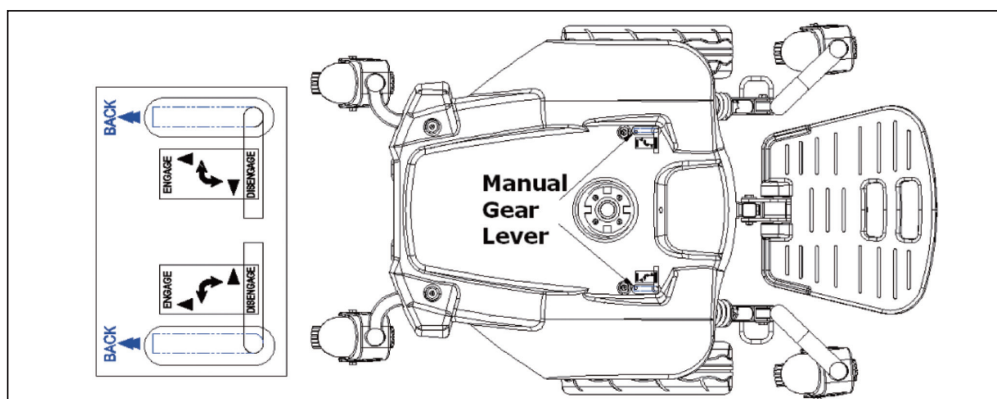

Figure 9. Power chair is in drive mode
1. Make sure the power chair is in drive mode. Both manual gear levers are backward. (See figure 9)
2. Ensure the power chair is in drive mode. (See figure 9)